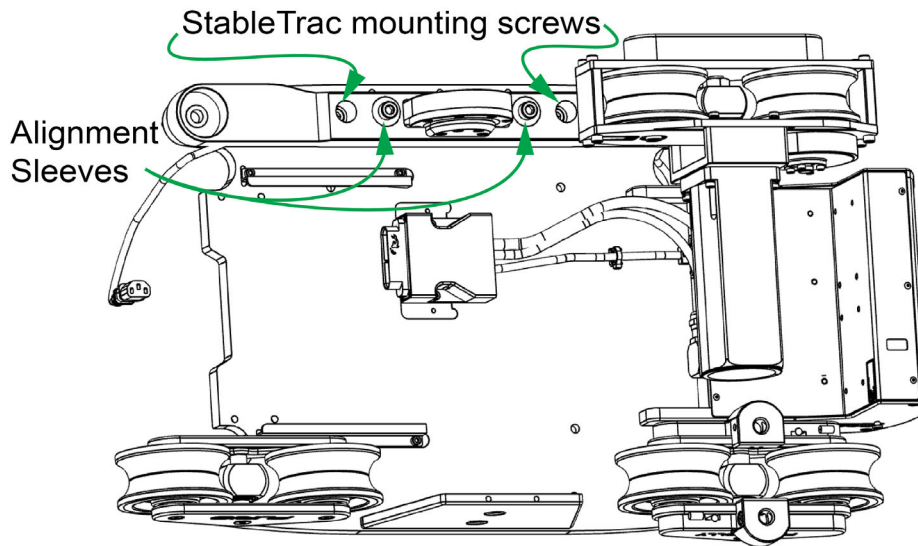

Figure 24 - StableTrac Mounting Location
- Use an 8 mm hexagonal wrench to loosely tighten the two screws that mount the StableTrac arm as shown in **Figure 24**.
3. Use an 8 mm hexagonal wrench to tighten the two screws that mount the StableTrac arm, as shown in **Figure 24** on **page 17** above.